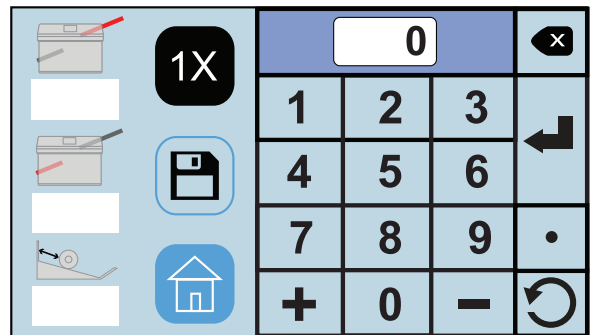

Fig. 15
1. Select the top fold plate icon  (Fig. 15) to set the fold stop position for the first fold (the icon will flash dark gray when selected). Using the touch pad key, in the measurement for the first fold stop position, (**Note:** the minimum position is 1.62" and the max. position is 12.59".).